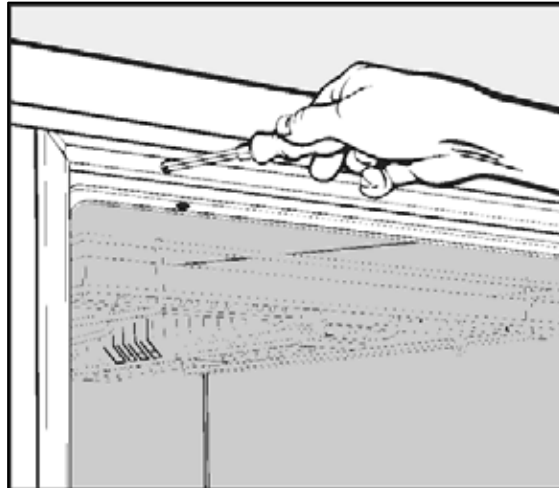

Figure 5-17: Door Tension Adjustment Screw
2. Locate the Spring Adjustment Screw on the left side of the dishwasher at the top front edge – as shown in Figure 5-17.